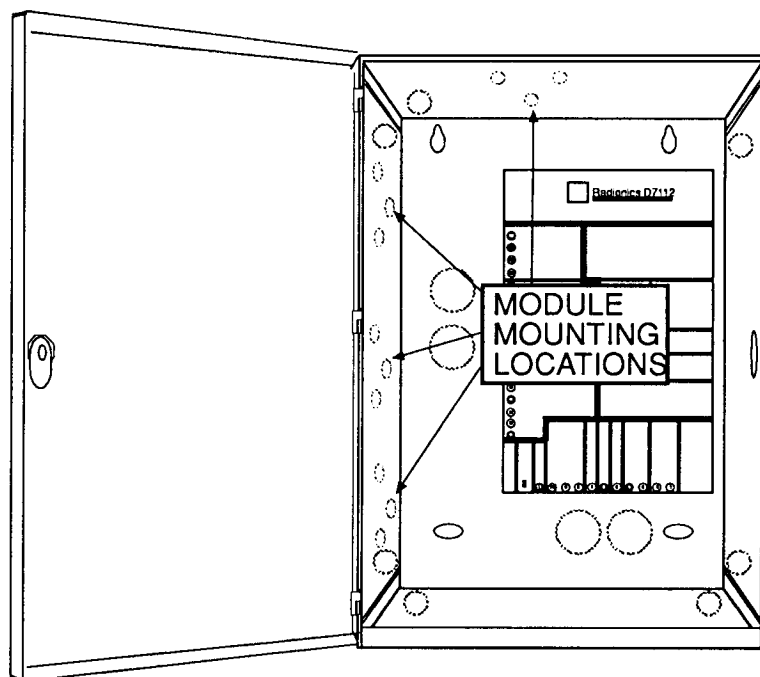

Figure 2: D7103 Enclosure
3. Mount the enclosure in the desired location. Use all four mounting holes. See Figure 2.
2. Align the module with any of the four mounting locations. See Figure 2. Using the three mounting screws provided with the module, fasten the module in place.
Install the D7125 in the top module location only: See Figure 2.